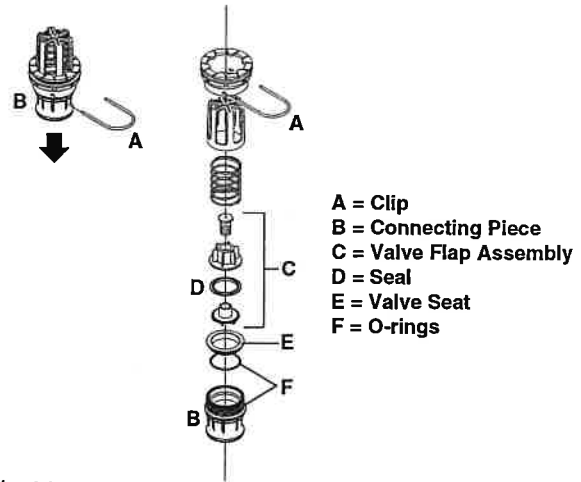

Fig 44
- 3 Pull out the clip (A Fig 44) and pull down the connecting piece (B Fig 44). The entire valve assembly can now be pulled out.
- 4 Check the cord and valve flap assembly (C Fig 44) for wear, replace the seal (D Fig 44) and reassemble.
- 5 Assemble the valve assembly again using a new valve seat (E Fig 44). Lubricate the O-rings (F Fig 44) before assembly.
- 6 Fit the clip (A Fig 44) again.